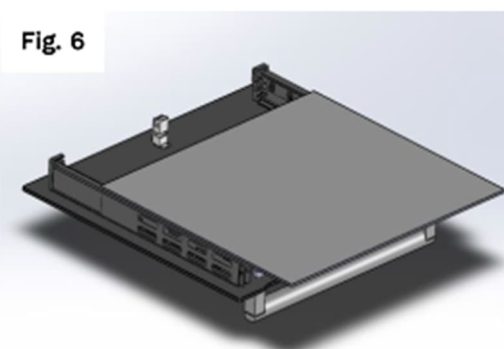

Fig. 6
3. Carefully remove the inner layer of glass (Fig. 6) and place it on a soft surface.